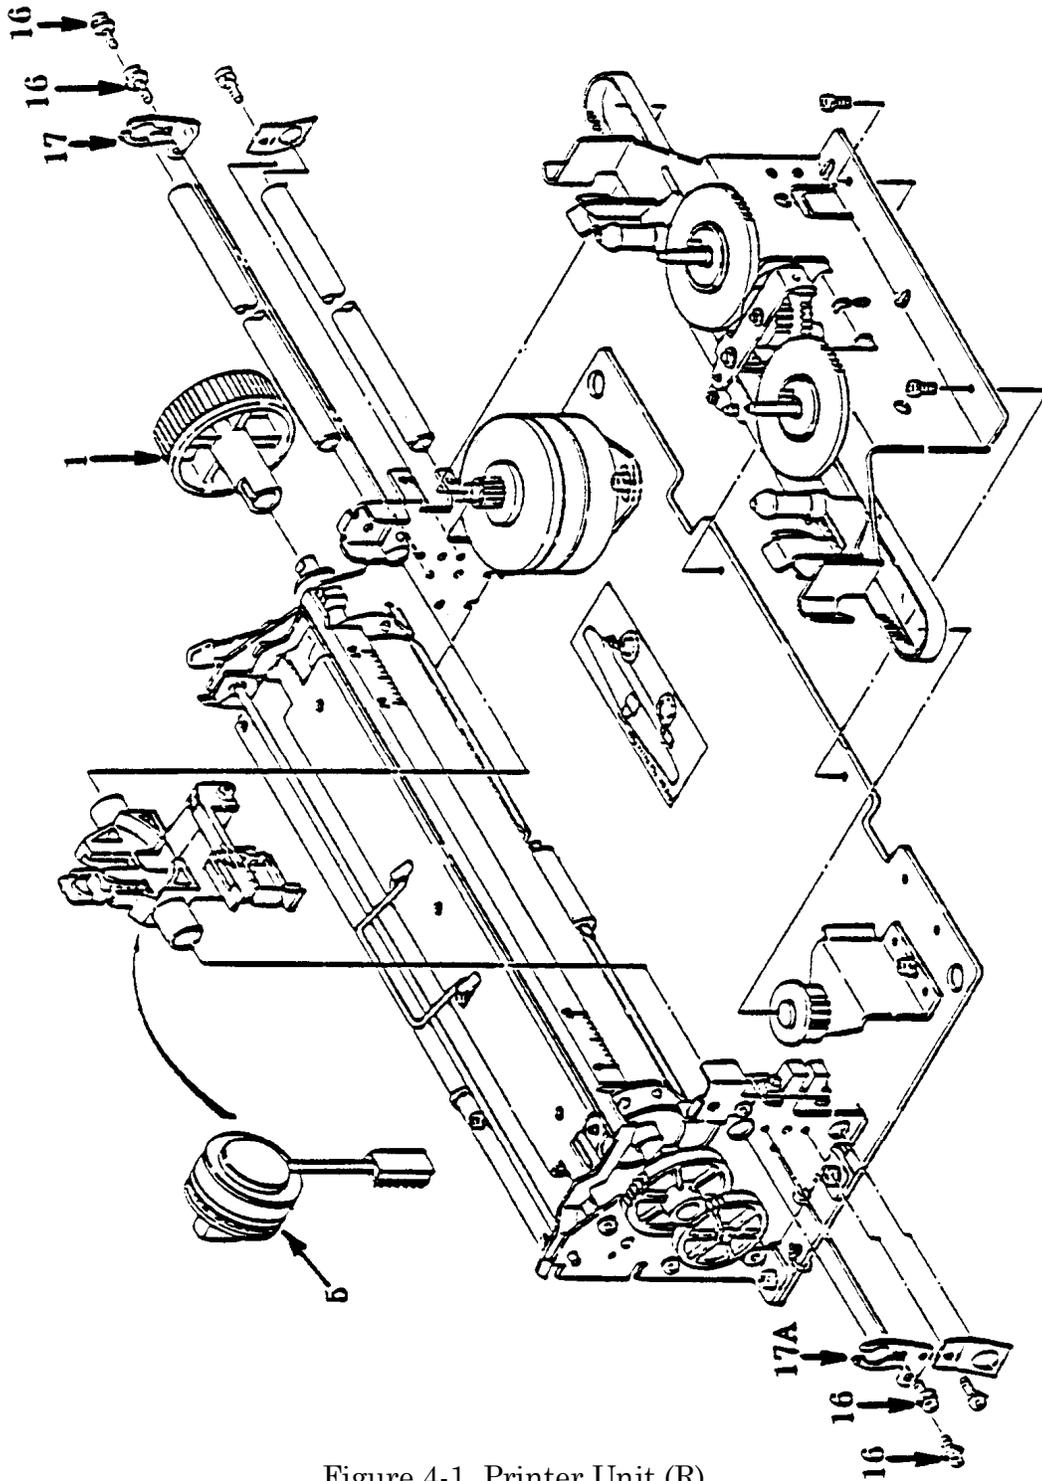

Figure 4-1. Printer Unit (R)
- Loosen the snap lever screws (see Figure 4-1, #16).
- Attach the snap levers (Figure 4-1, #17 and 17A) to the carriage shaft and then secure them to the side platen with the snap lever screws (Figure 4-1, #16).
Push the platen knob (Figure 4-1, #1) on.